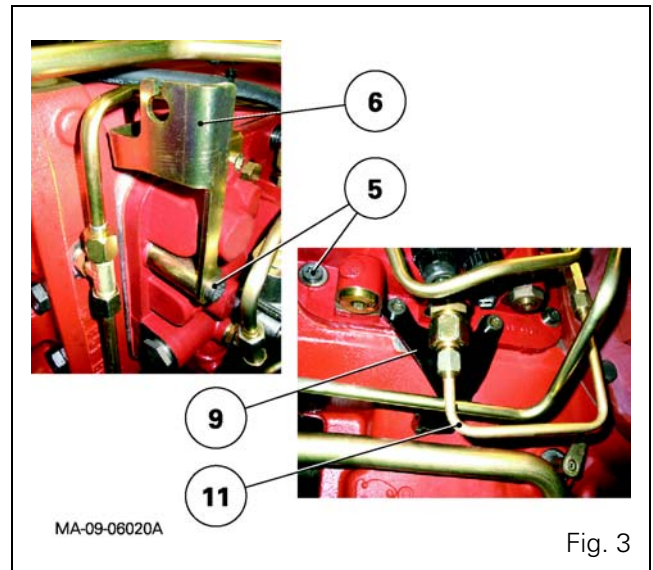

Fig. 3
14. Fit the handbrake control support (6) and the proportional PTO support (9) (if fitted) (Fig. 3). Take out the guide studs. Fit and tighten the screws (5) to a torque of 72 - 96 Nm.